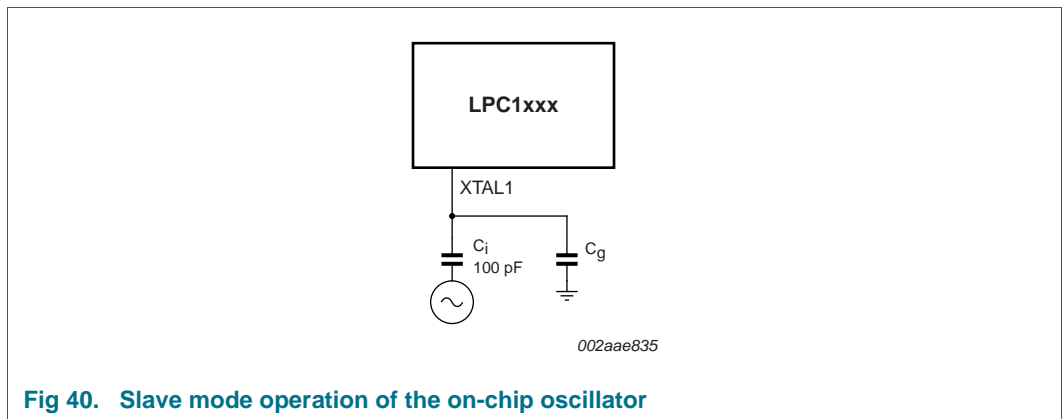

Fig 40. Slave mode operation of the on-chip oscillator
- In slave mode, couple the input clock signal with a capacitor of 100 pF (C_C in Figure 40), with an amplitude of at least 200 mV (RMS). The XTAL2 pin in this configuration can be left unconnected.
An external clock can be connected to RTCX1 if RTCX2 is left open. The recommended amplitude of the clock signal is $V_{i(RMS)} = 100$ mV to 200 mV with a coupling capacitance of 5 pF to 10 pF. $V_{i(RMS)}$ must be lower than 450 mV. See Figure 40 for a similar slave-mode set-up that uses the crystal oscillator.